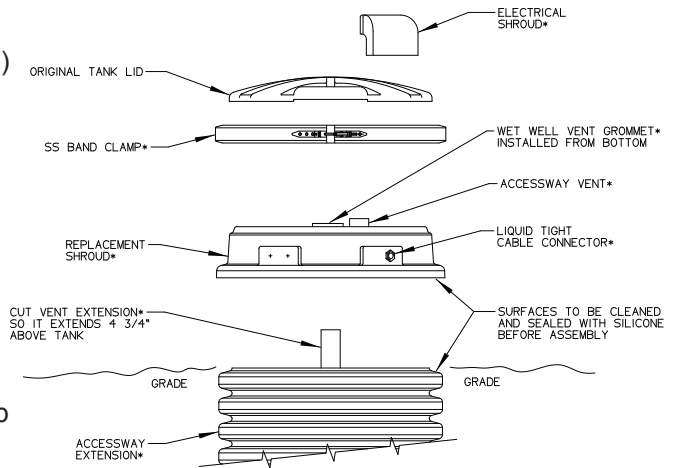

Figure 10
**INSTALL REPLACEMENT COVER ASSEMBLY (Fig. 10)**